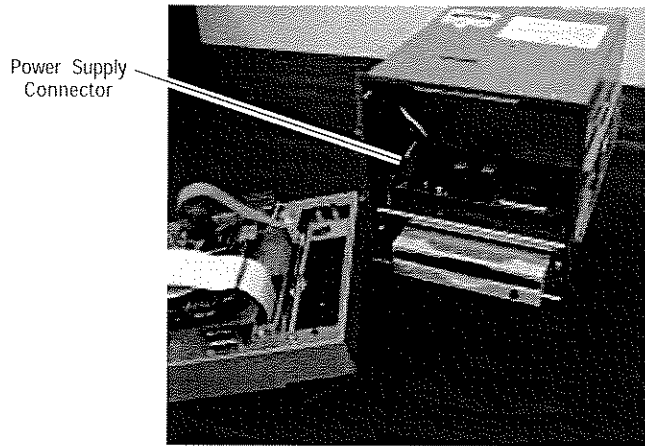

Figure 8-4. Remove Display from Frame
6. On left side, unplug the power supply connector. Unscrew the two bracket screws on both sides of the disk drive in order to remove the disk drive and main circuit (see Figure 8-4).